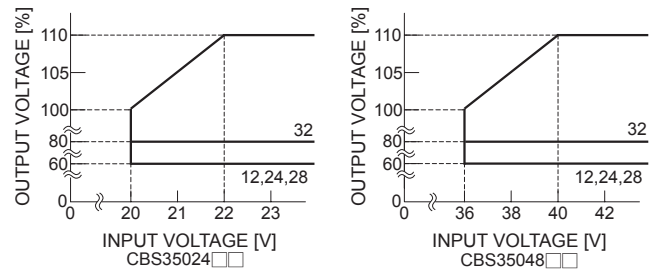

Fig. 4.4 CBS350 Output Voltage Adjustment Range
- When input voltage is 20 - 22VDC with CBS35024 models or 36 - 40VDC with CBS35048 models, the output voltage adjustment range becomes as shown in Fig. 4.4.